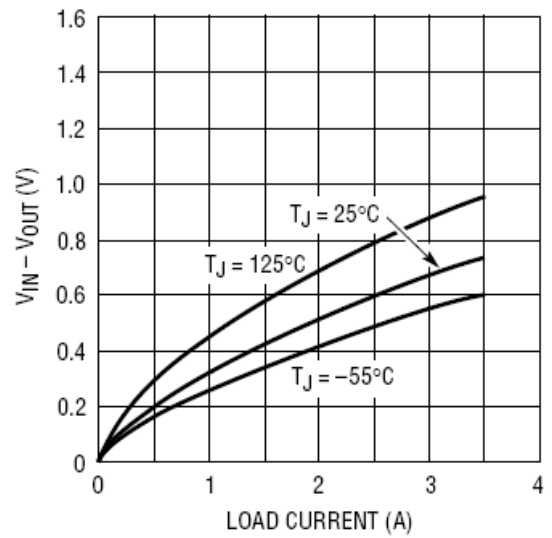

FIGURE 4 – RH1185 DROPOUT VOLTAGE TYPICAL CURVE
- 6/ Dropout voltage is tested by reducing input voltage until the output drops 1% below its nominal value. Tests are done at 0.5A and 3A. The power transistor looks basically like a pure resistance in this range so that minimum differential at any intermediate current can be calculated by interpolation; $V_{\text{DROPOUT}} = 0.25\text{V} + (0.25\Omega \times I_{\text{OUT}})$. For load current less than 0.5A, see Figure 4.